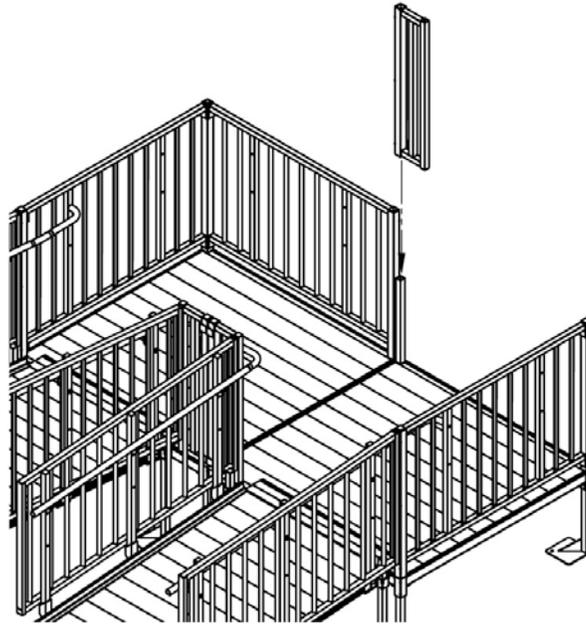

FIG. 3
- 2.2.1.2 If the filler section is not at 90° to a guard install the filler section over the platform leg with the tab brackets facing out and capped (FIG. 3).